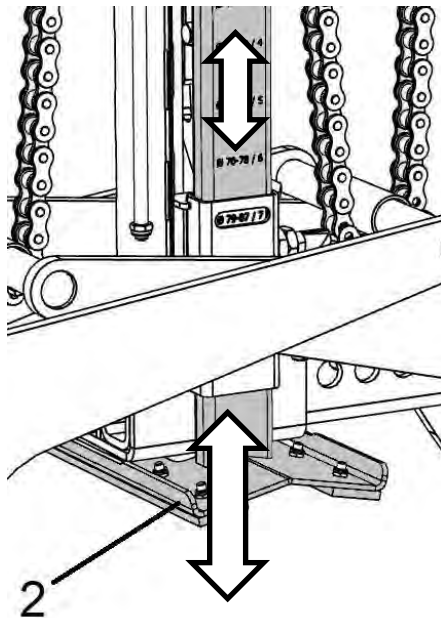

Fig. 1.1
3. Move the height-adjustable support (2) (Fig. 1.1) until the correct immersion depth is set (see viewing window → Fig. 1.1).